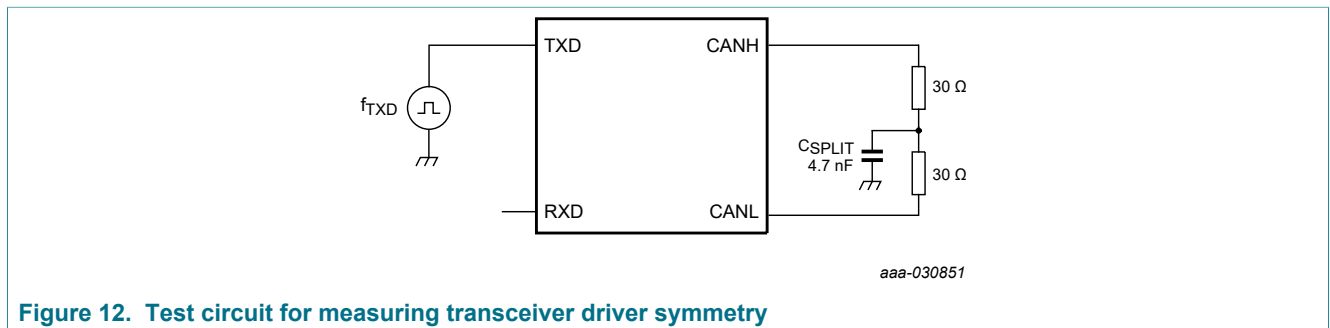

Figure 12. Test circuit for measuring transceiver driver symmetry
- [5] The test circuit used to measure the bus output voltage symmetry and the common-mode voltages (which includes C_{SPLIT}) is shown in Figure 12.